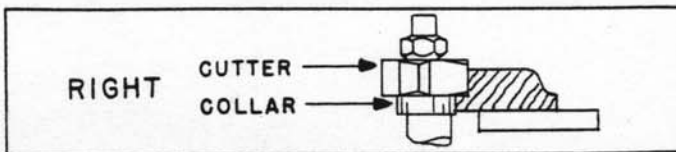
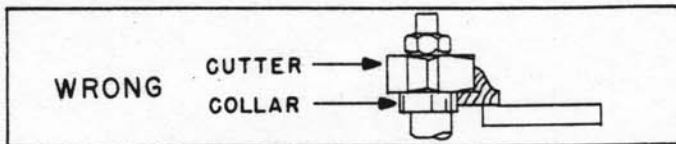

Fig. 14
Fig. 15
4. The work **MUST** be fairly heavy in proportion to the cut being made as shown in Fig. 14. Under **NO** circumstances should short work of light body be shaped against the collars as shown in Fig. 15.